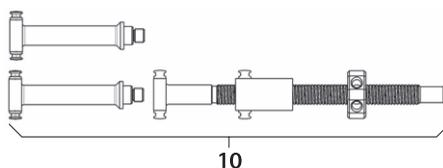

Fig. 15
- ▶ Mount distraction spindle 10, see Fig. 15.